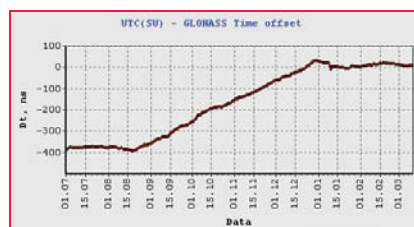

Figure 1: UTC(SU) – GLONASS Time offset
Till August 2014 the offset of GLONASS Time relative to UTC(SU) was about 400 ns. It met specified requirements but was not satisfactory for time users. Therefore, to minimize the offset of GLONASS Time relative to UTC(SU) on 18th August, 2014 the procedure for GLONASS Time correction was started. To keep the specified accuracy of SV – GLONASS Time synchronization the value of daily correction change was 3 ns. The results of monitoring proved the efficiency of the correction procedure: GLONASS Time offset relative to UTC(SU) changed from -392.6 ns (19.08.2014) to 29.4 ns (31.12.2014). Now the offset is kept within 35 ns. The offset of GLONASS Time relative to UTC(SU) is presented in Figure 1.